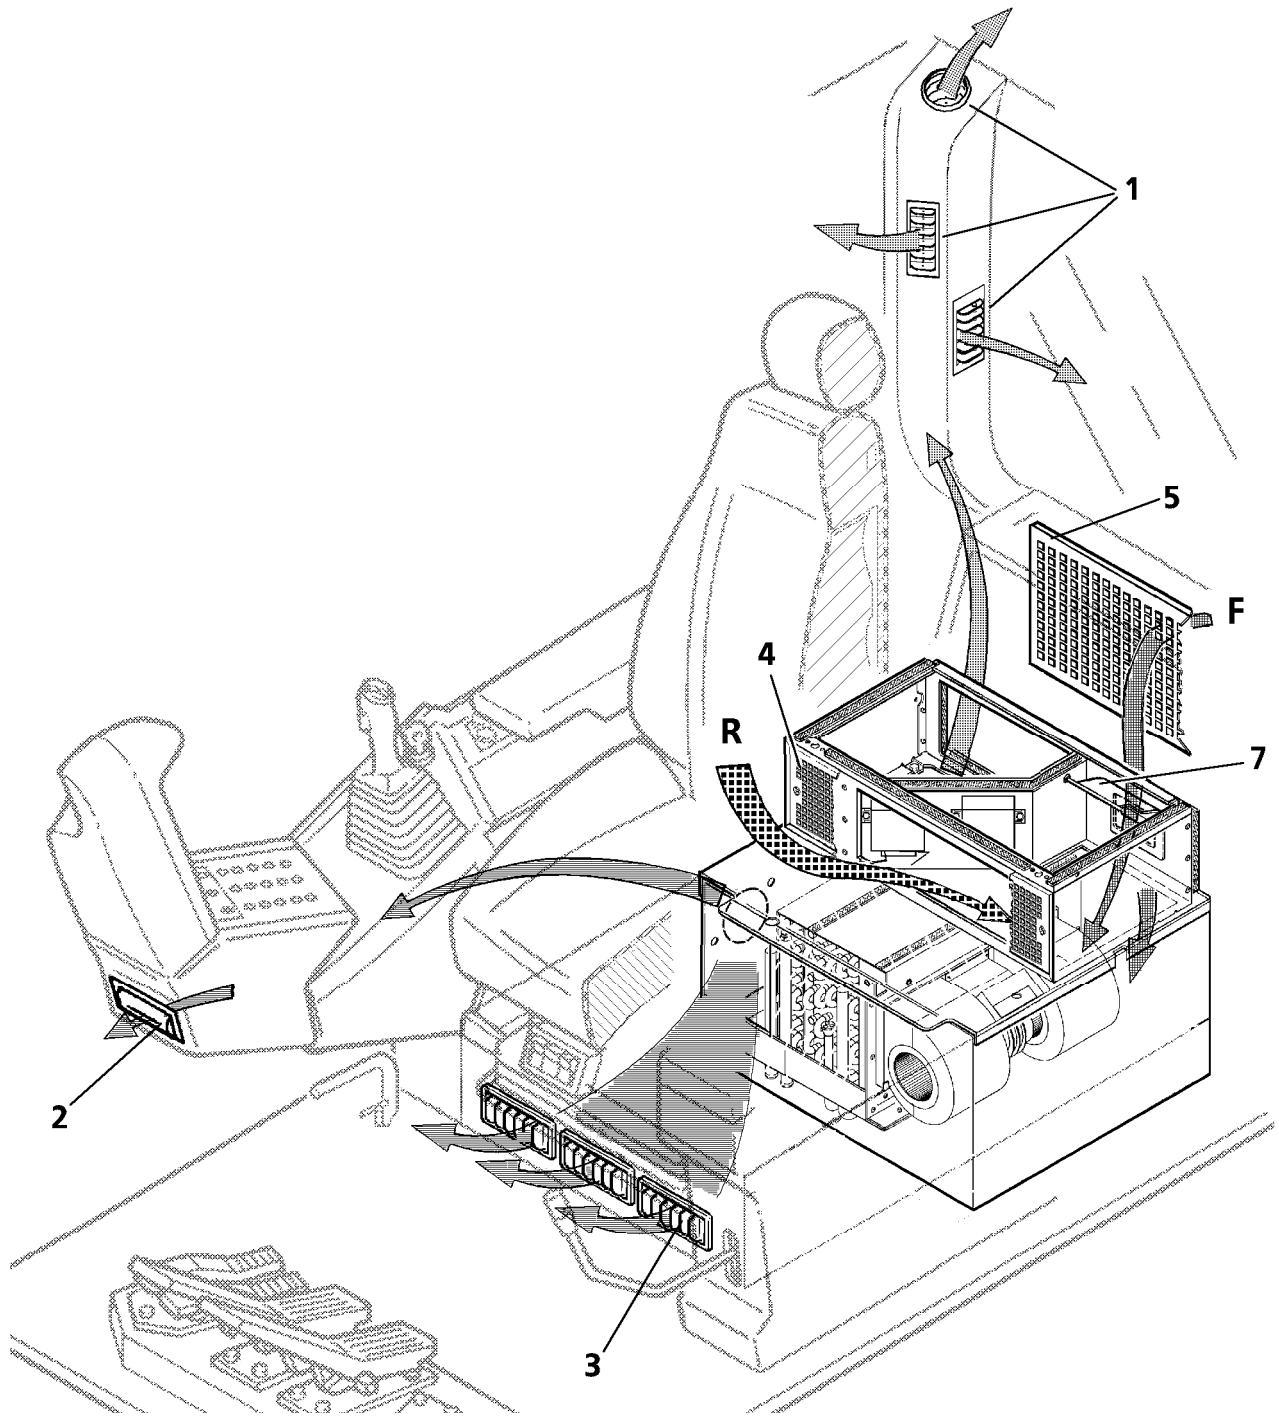

Fig. 3-49 Front positions of louvers and into the rear wall of the cab. Recirculated air flow (R) and fresh air flow (F)
The ventilation RPM is adjustable using 10 positions rotating knob **S94**. (siehe Fig. 3-49)
The heater and air conditioner can be operated with 100% recirculated air, but also with a mixing of fresh air (F) and recirculated air (R) (siehe Fig. 3-49).